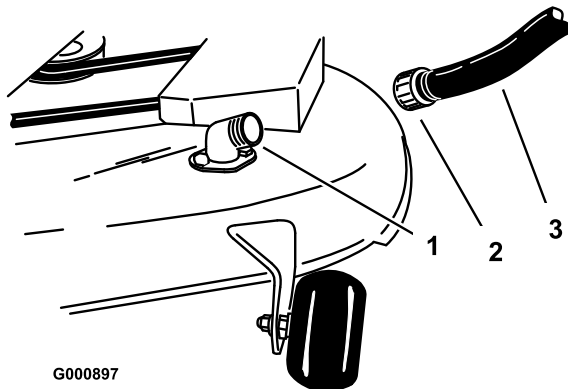

Figure 50
4. Attach the hose coupling to the end of the mower washout fitting, and turn the water on high (Figure 50).